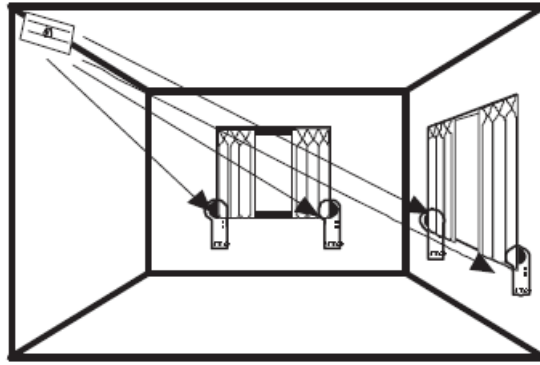

Fig. 5
- Corner Mounted (choose corner opposite glass to be protected see fig. 5).